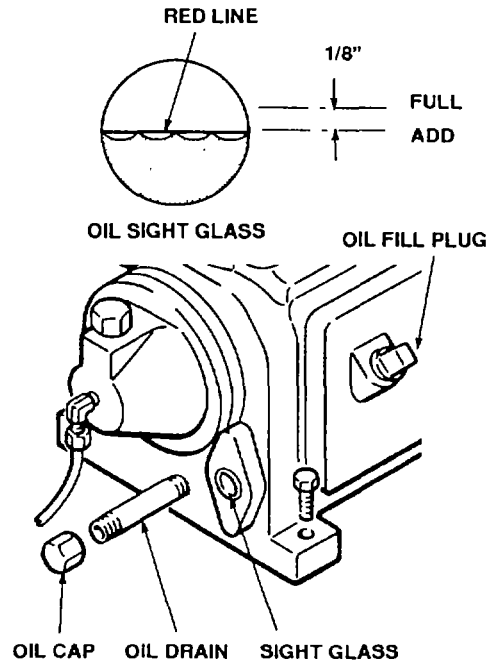

Figure 7. Checking Oil Level
- 1 Every day, check the sight glass to ensure that the level of oil in the compressor pump is at the required level (see Fig 7). Refer to page 12 for further lubrication information.
Always operate the unit in a level position Prior to start-up, check the sight glass to ensure that the oil in the compressor pump is at the required level. The oil level should reach 1/8" above the red line on the sight glass (see Fig 7). If the oil level is below the red line, remove the oil fill plug and pour oil through the oil filler opening until the sight glass shows the correct level. Do not overfill or underfill, too much or too little oil will harm the compressor.
The compressor pump is shipped with break-in oil which should be changed after the first 8 hours of operation. Drain the oil from the crankcase by removing the cap (see Fig 7). Additional oil changes should be done at the intervals specified below.